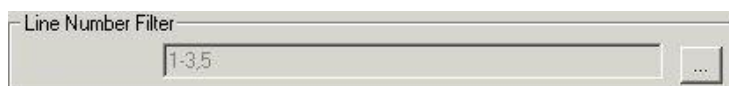

Figure 73: Line Number in Edit Filter dialog
- 4) Click **OK** to confirm your entry. You can see the entered Line Number in the **Edit Filter** dialog. *Please refer to the Figure 73.*